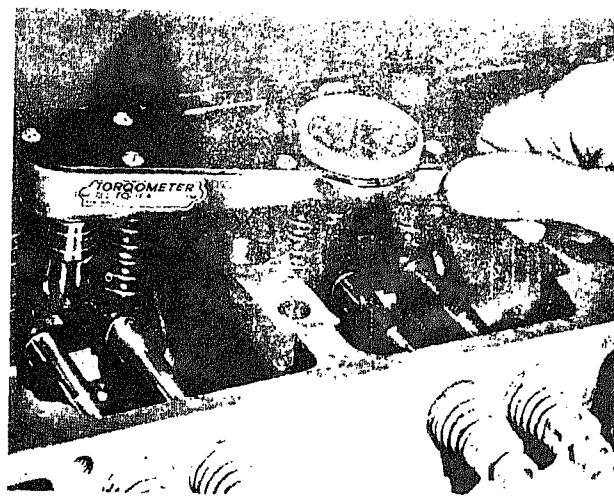

Fig. 14-1-41. Torquing injector hold-down capscrews
6. Tighten injector hold-down capscrews with torque wrench in alternate steps to 12 ft. lbs. [1.6596 kg m], Fig. 14-1-41; begin tightening sequence with cap screw on opposite side of inlet and drain connections.